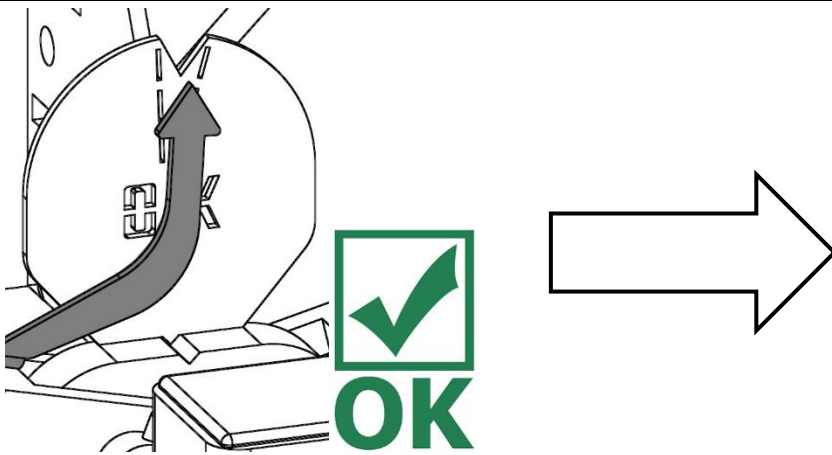

Fig. 1
- Is the pointer (when device is lifted) over the nick, the tension force is adjusted optimal (Fig. 1).